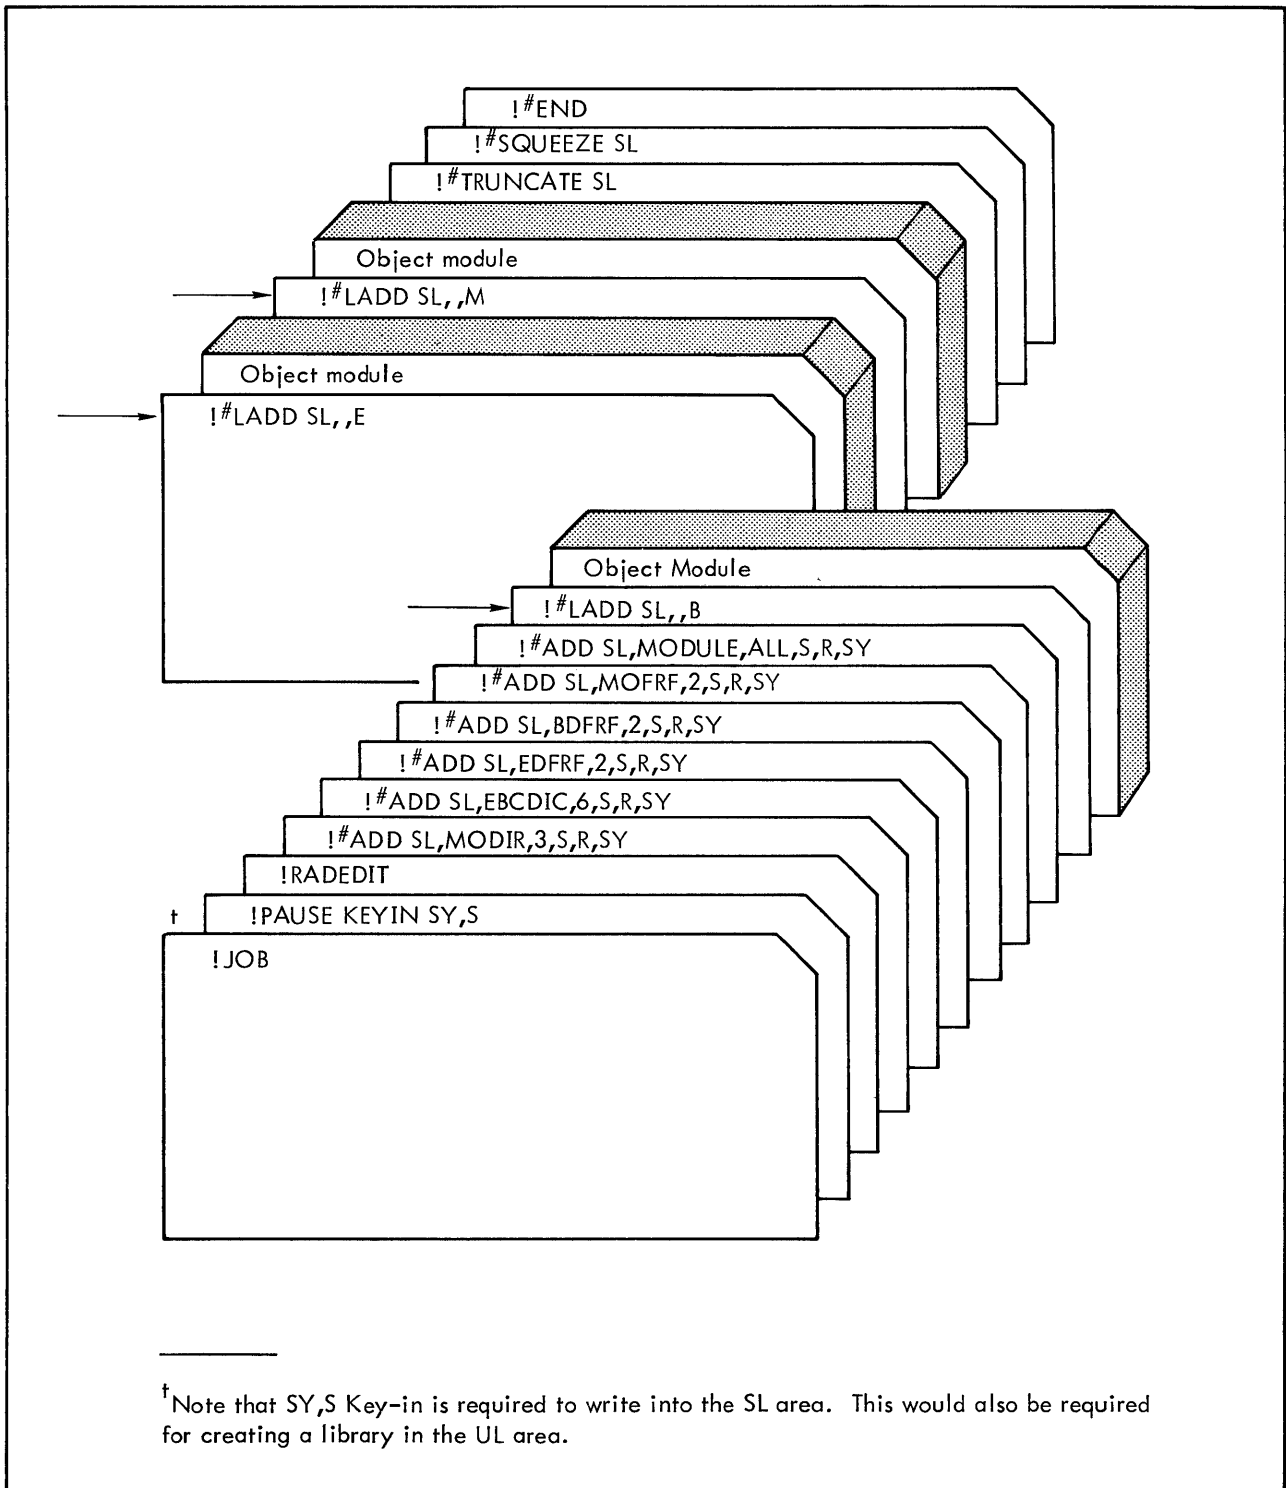

Figure 25. Input Library Files
After all six files have been created with #ADD commands, the #LADD command enters the library routines into the defined four files, depending on the library code parameter on the !#LADD command: Basic (B), Main (M), or Extended (E) as defined in Figure 25. The same basic method is used to set up the User Library.